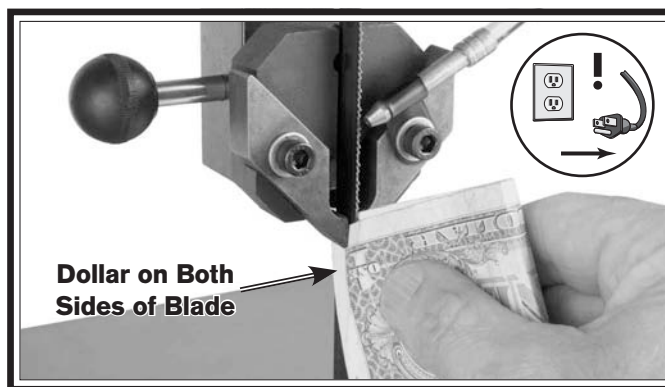

Figure 26. Using a dollar bill to set blade guide spacing (blade guide cover removed for clarity).
9. Fold a crisp dollar bill in half and place it over the blade (between the blade guides and the blade), as shown in **Figure 26**.